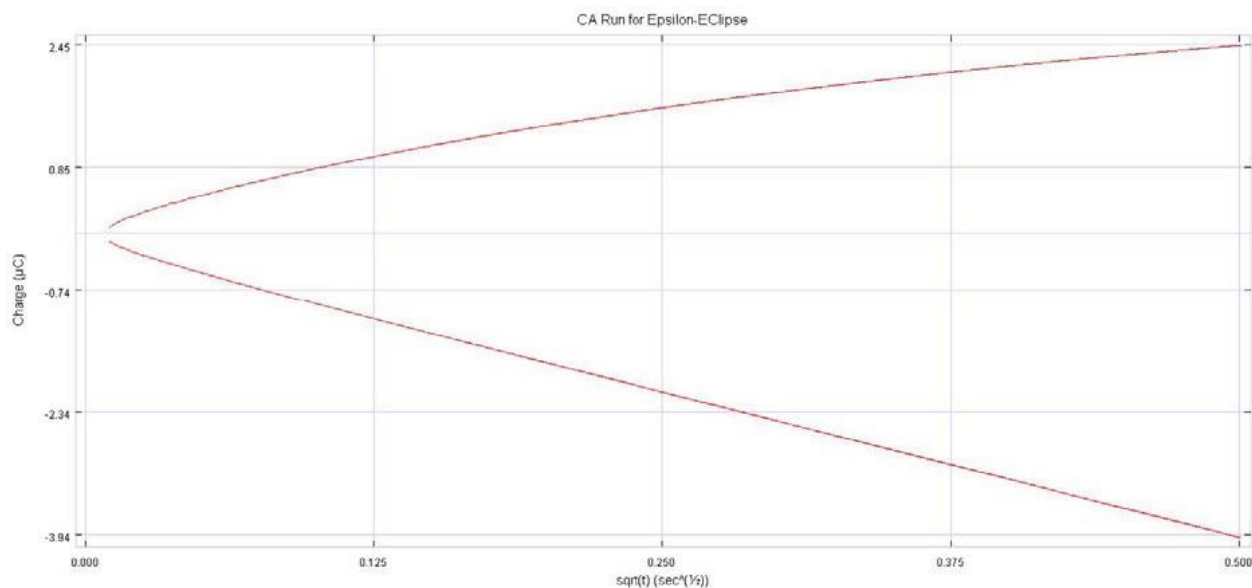

Figure 11 - Q vs.  $\sqrt{t}$  plot for Chronoamperometry/Chronocoulometry
12. The data from a **Chronoamperometry/Chronocoulometry** experiment can be plotted in a number of different formats, which can be selected using **Select Graph Type** in the graph menu, or by right-clicking on the graph. The **Q vs.  $\sqrt{t}$**  plot is shown in Figure 11.